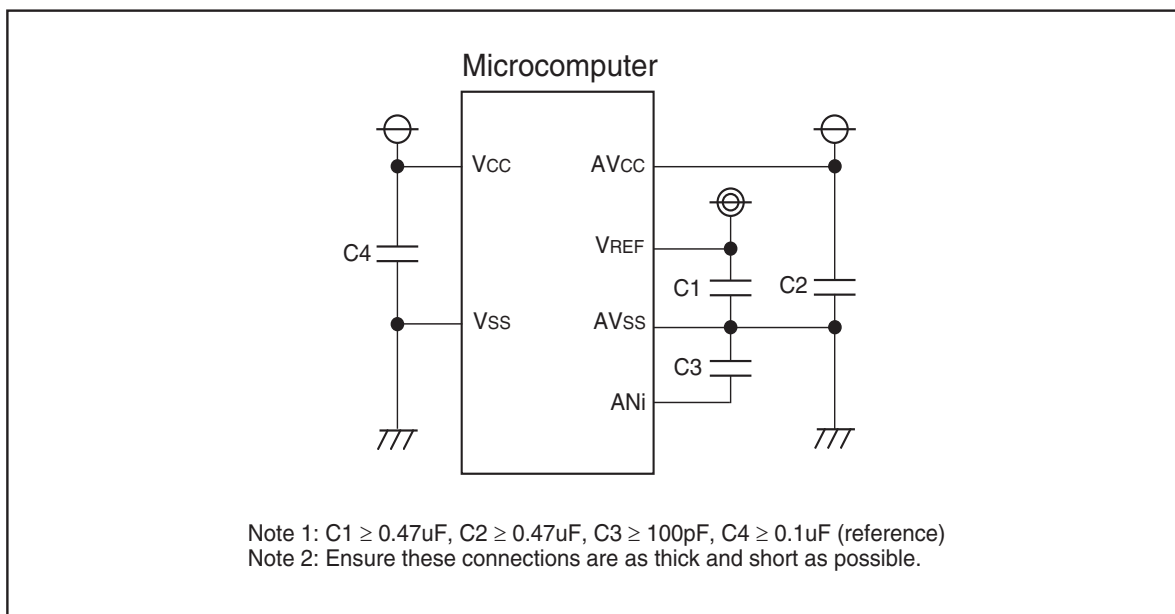

Figure 1.16.9. Example connection of Vcc, Vss, AVcc, AVss, VREF and ANi
- (1) Set the port direction bits corresponding to the following pins to input: those P10 pins to be used for analog input, plus external trigger input pin (P15).
- (2) In using a key-input interrupt, none of 4 pins (AN4 through AN7) can be used as an A-D conversion port (if the A-D input voltage goes to "L" level, a key-input interrupt occurs).
- (3) Insert the capacitor between AVCC and AVSS, between VREF and AVSS, and between the analog input pin (ANi) and AVSS, to prevent a malfunction or program runaway, and to reduce conversion error, due to noise. Figure 1.16.9 is an example connection of each pin.